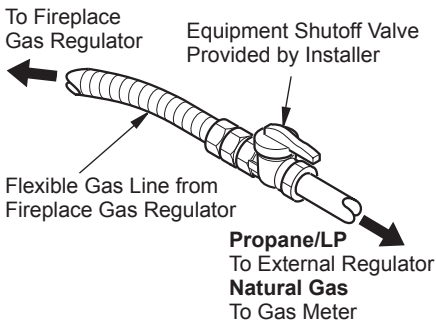

Figure 20 - Attaching Flexible Gas Lines Together
NOTICE: Most building codes do not permit concealed gas connections. A flexible gas line is provided to allow accessibility from the fireplace (see Figure 20). The flexible gas supply line connection to the equipment shutoff valve should be accessible.
4. Attach the flexible gas line to gas supply (see Figure 20). Check tightness of flexible gas line attached to gas regulator of fireplace (see Figure 20).